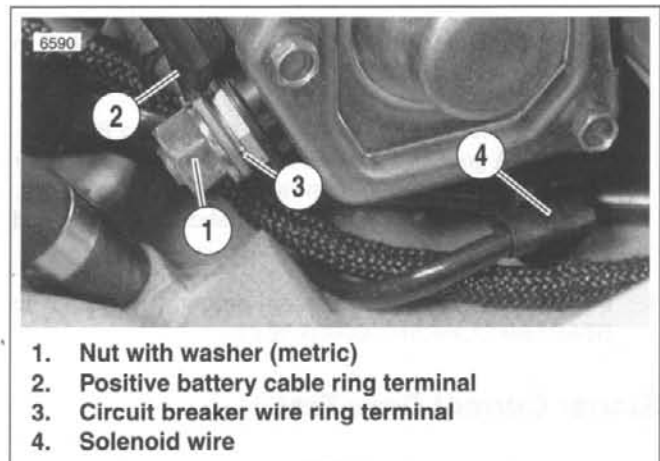

Figure 5-10. Starter Wires (Protective Boot Not Shown)
3. See Figure 5-10. Remove nut with washer (1) (metric).
- b. Remove positive battery cable ring terminal (2).
- c. Remove circuit breaker wire ring terminal (3).
- d. Detach solenoid wire (4).